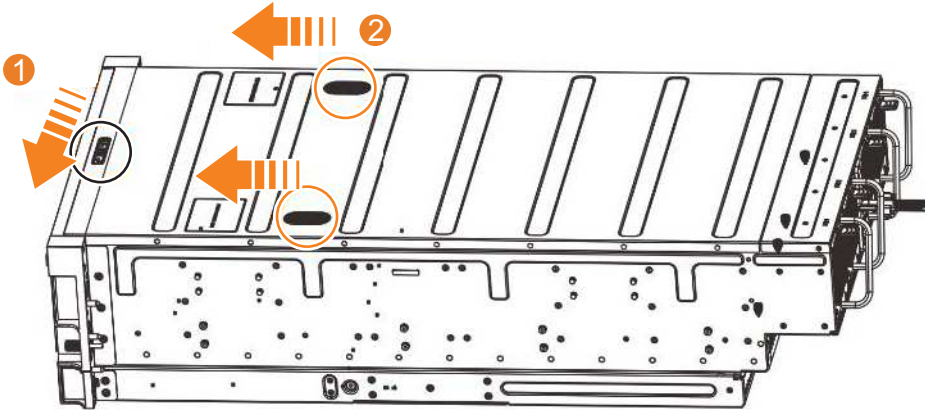

Figure 32. Releasing the 2076-92F cover
2. Slide the release latch (**1**) in the direction that is shown in Figure 32.
3. Slide the cover toward the front of the expansion enclosure (**2**), as shown in Figure 32.